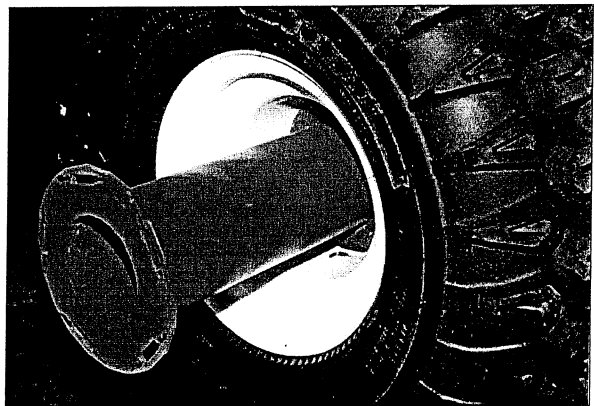

Figure 32
7. Install the spacer tube with 5 bolts into the dual wheel. Fasten with 5 flared lug nuts and tighten to approx. 55 foot pounds (**Figure 32**).